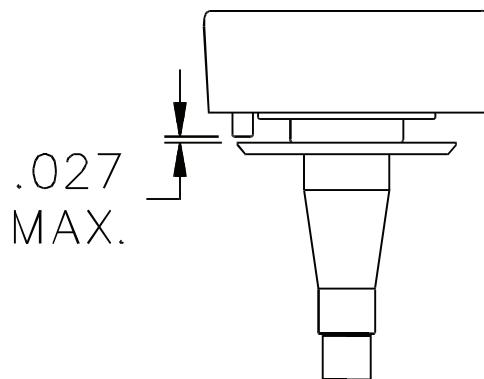

Figure 11 - ABS Sensor and Tone Ring Gap
5. Check physical gap between the sensor and tone ring (See Figure 11) The brake drum must be removed to inspect gap. The maximum allowable gap is .027 inch. If the gap is greater than .027 inch, press on the wire lead end of the sensor and push the sensor into contact with the tone ring. Check that the ABS spring retainer and bushing are not unseated. Re-seat components as needed.